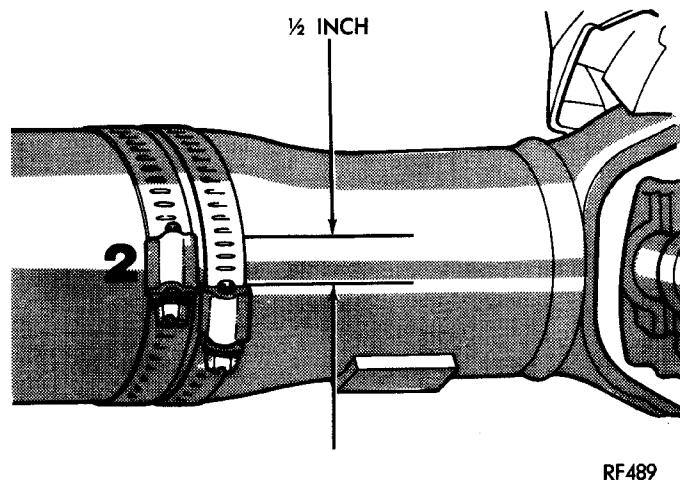

Fig. 9 Clamp Screws Separated
(13) If the additional clamp causes an additional vibration, separate the clamps (1/4 inch above and below the mark). Repeat the vibration test (Fig. 9).
(14) Increase distance between the clamp screws and repeat the test until the amount of vibration is at the lowest level. Bend the slack end of the clamps so the screws will not loosen.
(15) If the vibration remains unacceptable, apply the same steps to the front end of the propeller shaft.
(16) Install the wheel and tires. Lower the vehicle.